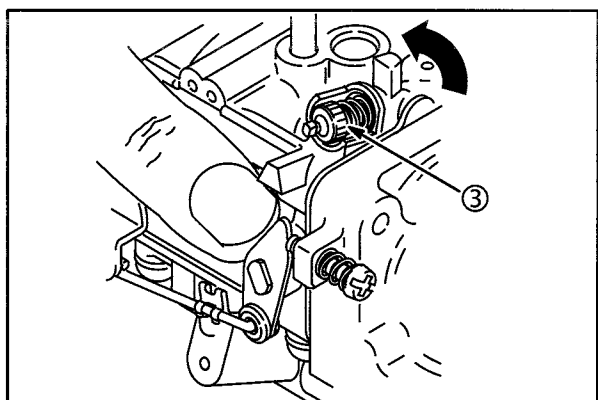

Fig. 20
5. Then turn idle mixture screw (3) COUNTER-CLOCKWISE 3/8 turn, Fig. 20.